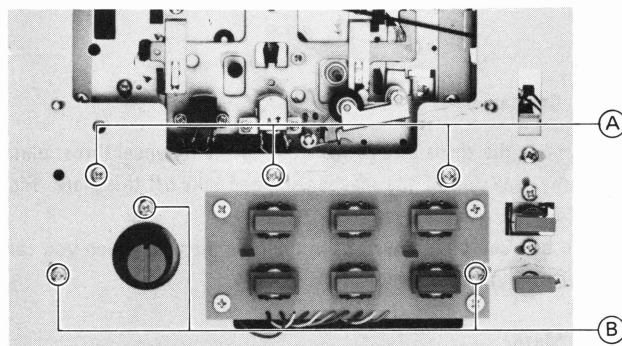

Fig. 5-2-4
- Refer to Fig. 5-2-4.
- The Control (A) PCB Assembly can be removed by disconnecting its cable harness and removing the front screw (A).
- The Control (B) PCB Assembly can be removed by disconnecting its cable harness and removing the front screw (B).